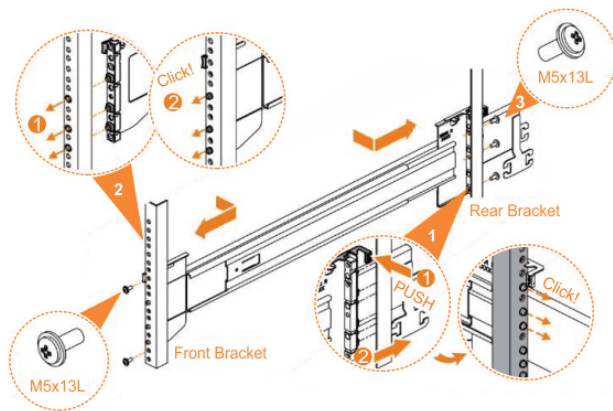

Figure 49. Installing the rail assembly to the rack frame
6. Use the M5 screws to install the outer rail member and bracket assembly to the rack, as shown in Figure 49 on page 83.